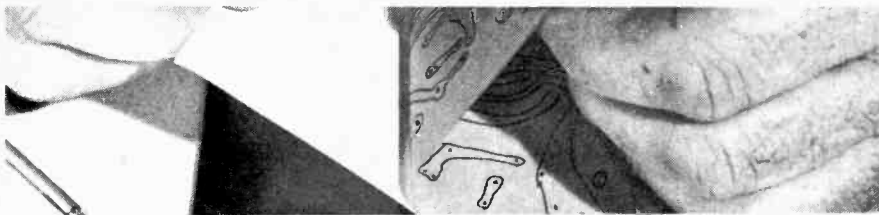

Fig. 3. Separate the Letrafilm from its backing support.
5) Remove the Letrafilm from the diagram and carefully separate the film from its backing sheet (Fig. 3).